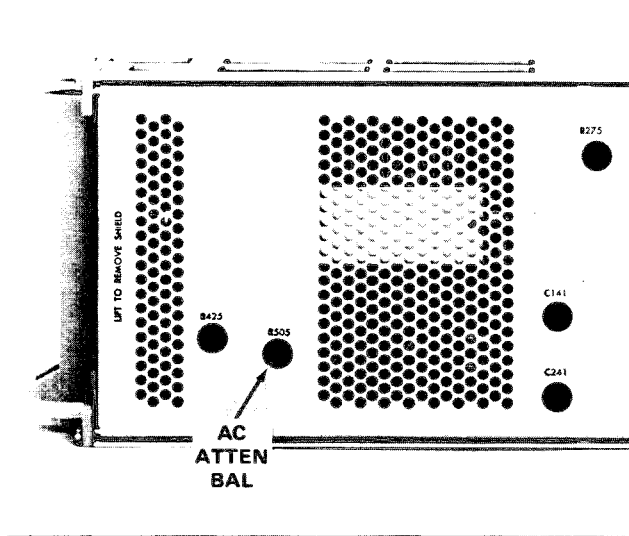

Fig. 2-2. Location of AC ATTEN BAL control.
1. **AC ATTEN BAL (internal adjustment).** When the LOW FREQ —3 dB POINT switch is used to limit the low frequency response of the Type 7A22, the unit employs AC stabilization. This means that when the switch is set to any position except DC or DC OFFSET, the STEP ATTEN DC BAL and DC OFFSET controls become inoperative. VOLTS/DIV balance is then controlled with the AC ATTEN BAL, an internal adjustment (see Fig. 2-2).
d. Adjust R425 for no movement of trace as the VARIABLE control is rotated from stop to stop. (See Fig. 2-2 for location of adjustment.)